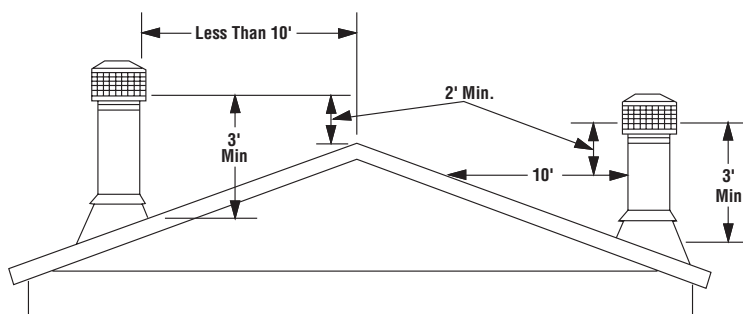

Figure 6
9. **Figure 6** illustrates the correct height of your chimney top for indoor installations. It is unlikely that your installation does not adhere to the installation instructions. However, if not correct, you could experience an unusual downdraft. Usually, the best solution is to increase the chimney height. This may also be necessary if nearby trees, adjoining roof lines or a hill is causing a downdraft condition.